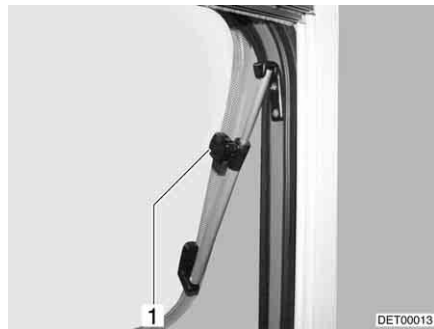

Fig. 96 Skylight with rotary hinges, open
- Open the skylight until the required position has been reached and use knurled knob (Fig. 96,1) to secure in position.
- Turn knurled knob (Fig. 96,1) until the latch is released.